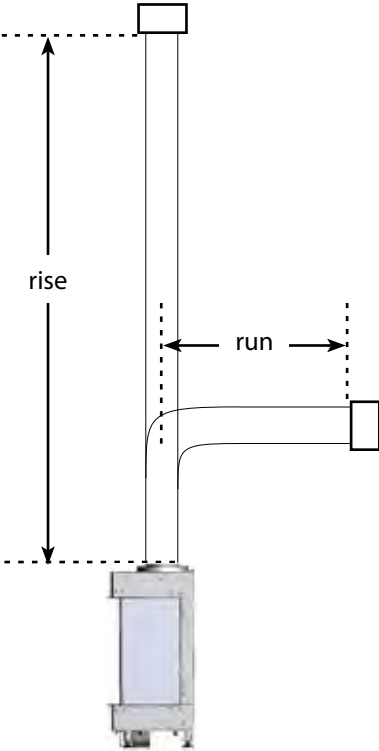

Figure 20
- All measurements are taken from the center of the vent connector on the top of the fireplace (see *Figure 20*) and all configurations must fall within the acceptable range of the venting charts.